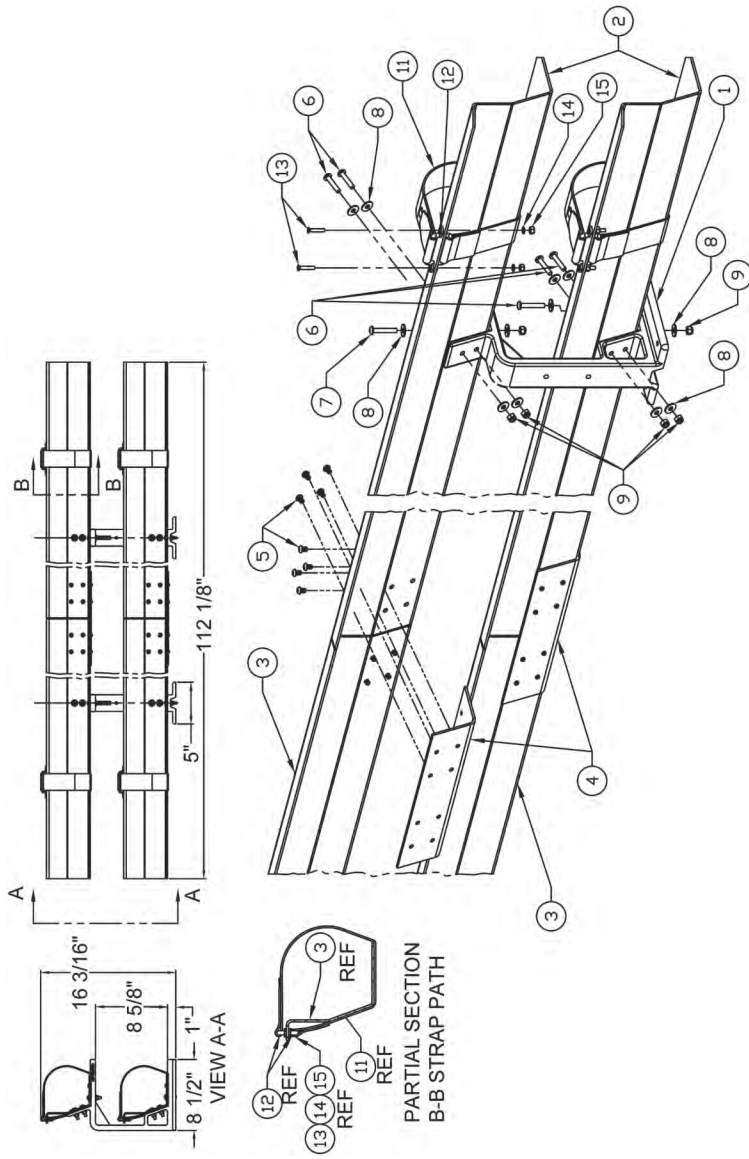

FIGURE 6
- F. HHS-TMV-2-ST: Vertical Hard Suction Mounting Kit with (2) 10' Split Trays. (Figure 6)